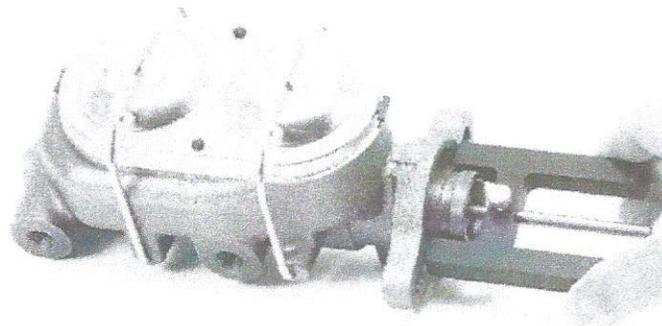

Figure 1 – Tool Positioned on the Master Cylinder
1. Loosen the thumb screw and place the short side of the tool on the back edge of the master cylinder (see figure 1). **Note:** The tool should be positioned so the legs of the tool should be flush against the master cylinder flange. Once in place, press the pin inward towards the piston and tighten the thumb screw.